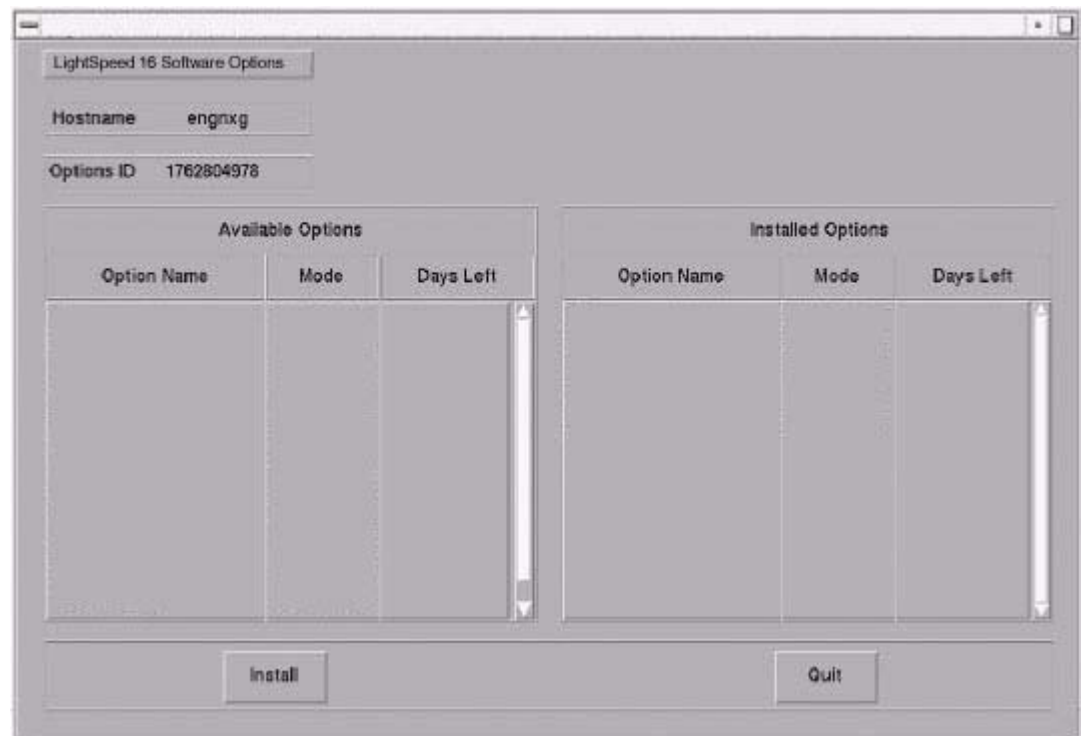

Figure 1-11 Software Options Screen
- 1.) On the Service Desktop, select TOOLBOX/UTILITIES -> INSTALL -> INSTALL OPTIONS. The Software Options Window is displayed (see Figure 1-11):
- 2.) Click on the INSTALL button. (see Figure 1-11).